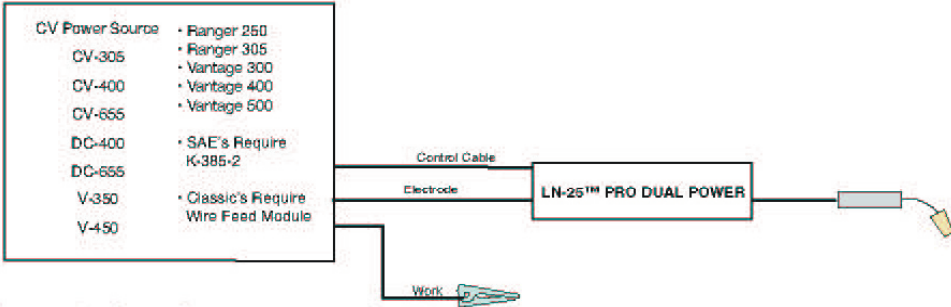

**Fig A.9**
**CV Power Source with Twist-Mate Connectors and no Remote/Local Switch. (See Fig A.9)**